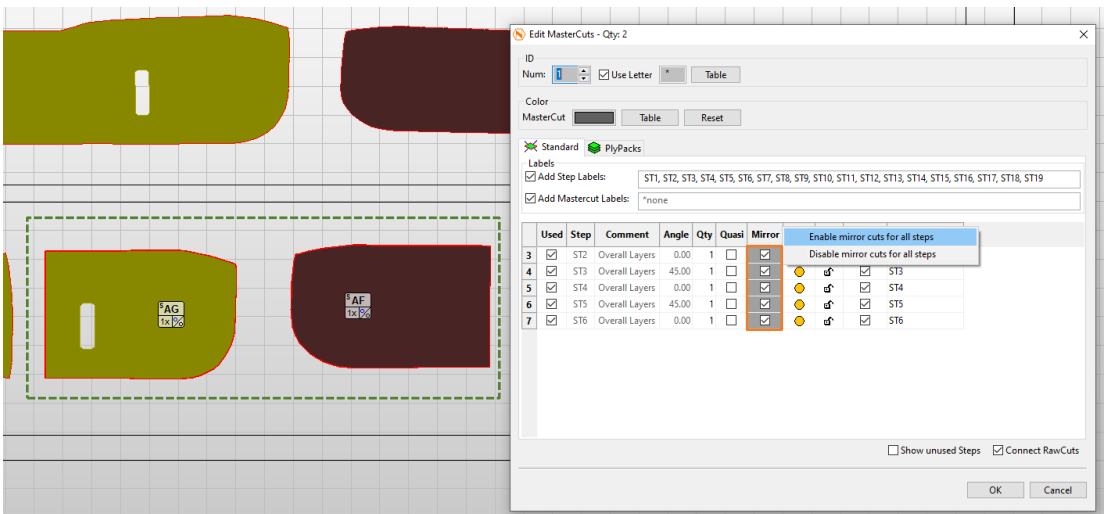

Figure 286
- And finally, MasterCuts with IDs AG and AF (Figure 286).